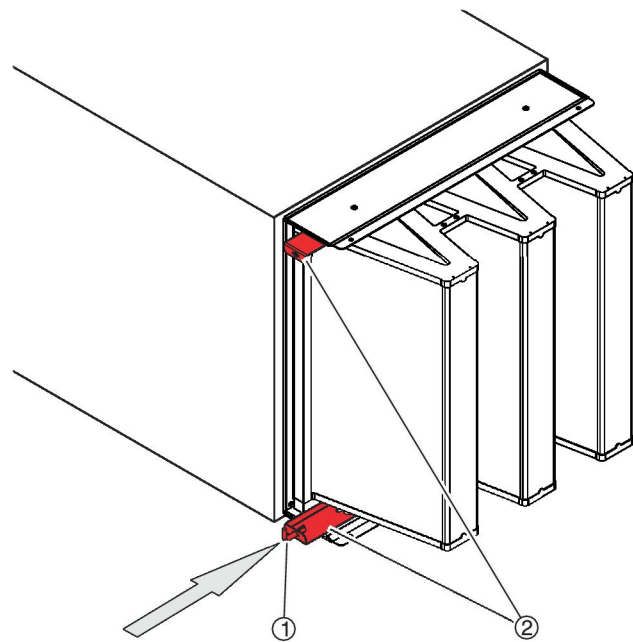

Fig. 28: Pushing the clamping rails in
7. ▶ Use the special key (Fig. 28 /1) to push the clamping rails (Fig. 28 /2) in as far as they will go.